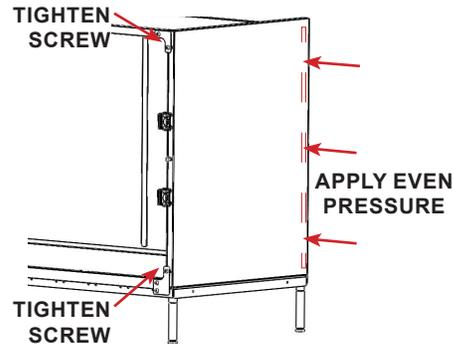

FIGURE 2.58 - End Panel Installation
- STEP 7:** Tighten the top and bottom screws along the side of the cage frame to hold the end panel against the cage frame. See FIGURE 2.58
- STEP 8:** Apply even firm pressure for 60 seconds (minimum) to the end panel to adhere the end panel to the back of the cage. See FIGURE 2.58